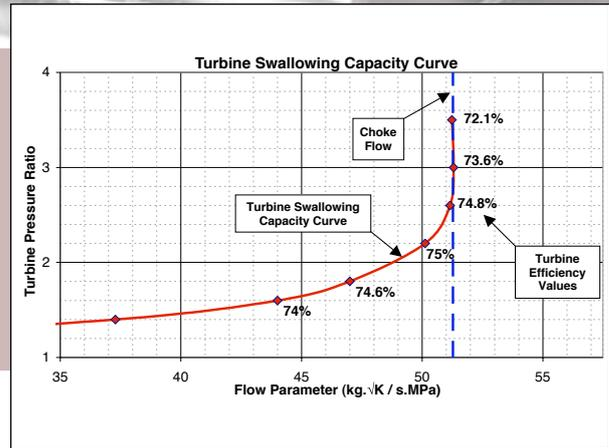

Fig 1 - Swallowing capacity curve
- 1) A swallowing capacity curve (figure 1) shows the points at which the turbine is likely to run, which are the peak efficiencies for each pressure ratio. The x-axis is the mass flow; the y-axis is the turbine pressure ratio (expansion ratio). The graph shows the relationship between these two parameters and illustrates the turbine's efficiency. The line on the graph climbs vertically at the maximum flow value, usually referred to as the choke flow. This is the maximum flow the turbine can handle, defining the size of the turbine.